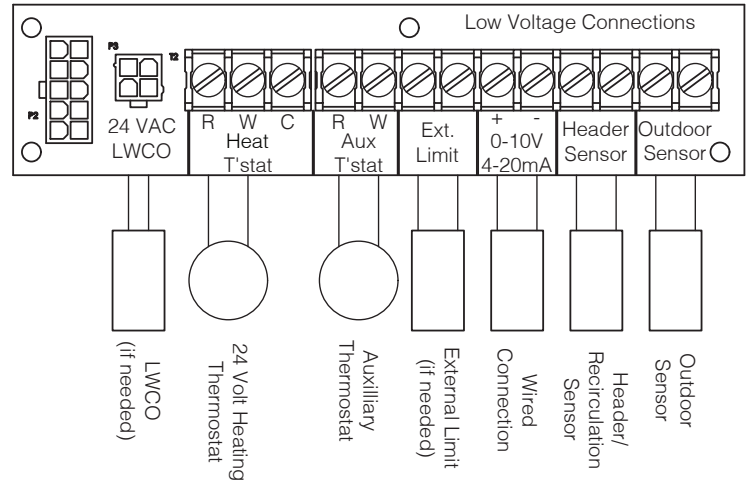

Figure 13-3: Low Voltage Connections
- Connect jumper, time of day clock or momentary push button to "Aux T-Stat" terminals per Figure 13-3.
- Connect recirculation temperature sensor to "Header sensor" terminals per Figure 13-3.
NOTICE: Boiler is equipped with a UL 353 listed high water temperature limit function. This limit provides boiler shutdown in event boiler water temperature exceeds set point of control. Certain local codes require an additional water temperature limit. If necessary, install an additional water temperature (Honeywell L4006 Aquastat). Wire as indicated in Figure 13-3.
1. All low voltage field connections to boiler are made on Low Voltage Connections terminal strip (see Figure 13-3) located on left side of bottom panel. Route all low voltage wiring through conduit knock out holes located on left side in front of terminal strip.